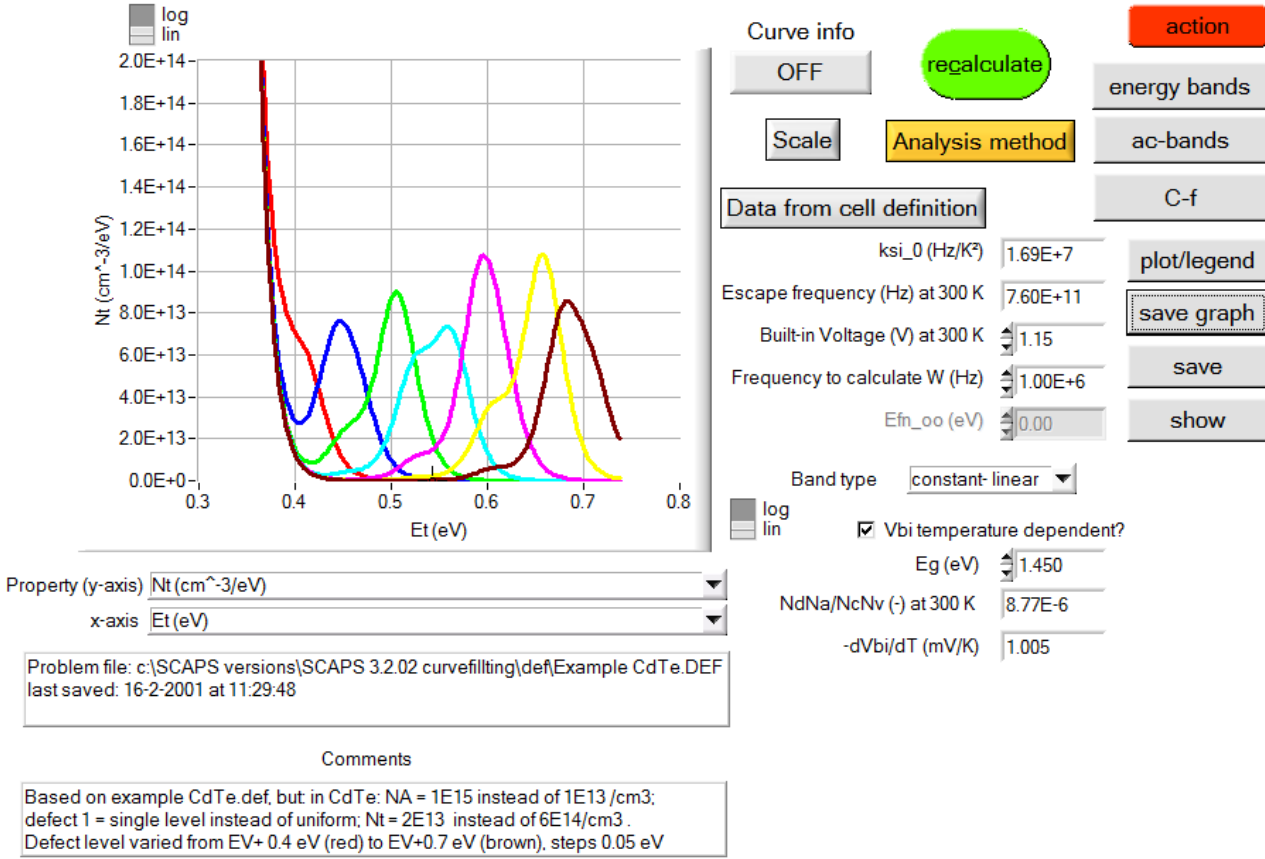

Figure 6.6 The AS panel
This panel displays the capacitance and conductance as a function of simulation frequency. Moreover, a Nyquist plot and a plot of G/ω is given. A facility has been added to analyse the results according to the admittance spectroscopy (AS) method outlined in [17] and extended in [18]. By clicking the ‘Admittance spectroscopy’- button the AS-panel is displayed, see Figure 6.6.